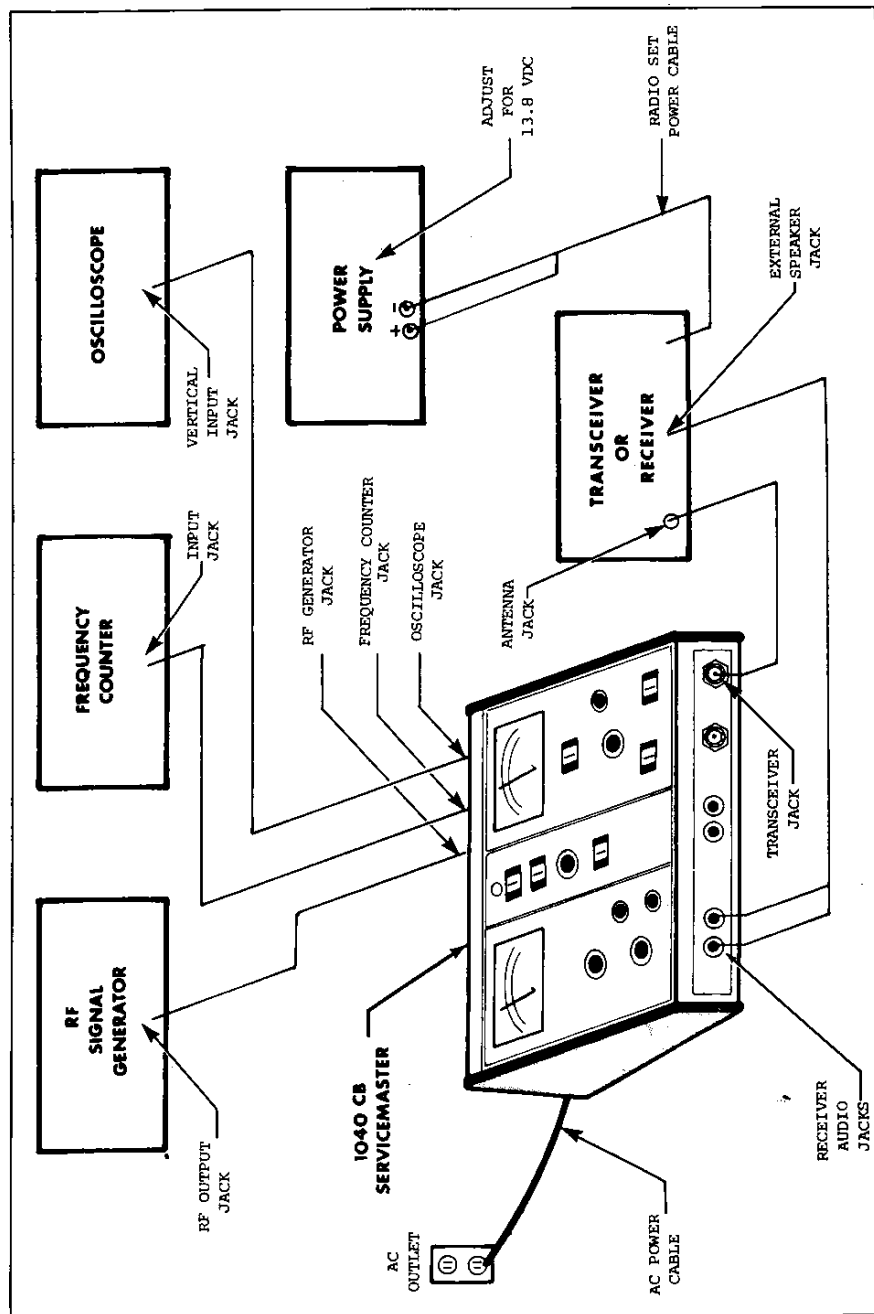

Fig. 5. Basic Set-Up
BASIC SET-UP (See Figure 5)
1. Hook up equipment in the basic test set-up shown in Fig. 5 and set all controls as instructed in INITIAL OPERATING PROCEDURE.
2. Set RANGE switch (15) to the 10W position for class D Citizen's Band transceivers or any other transmitters with a normal RF power of less than 10 watts. For transceivers and transmitters with normal RF power of 10 to 50 watts, select the 50W range. For transceivers and transmitters with normal RF power of 50 to 100 watts, select the 100W range.
3. Be sure the TRANSMITTER FUNCTION switch (16) is set to FWD (forward).
4. Be sure the RF LOAD switch (18) is set to INT (internal).
5. Be sure the RF POWER switch (19) is set to AVG (average).
1. Hook up equipment in the basic test set-up shown in Fig. 5 and set all controls as instructed under INITIAL OPERATING INSTRUCTIONS.
2. Set LOAD switch (3) to match the normal speaker load of the receiver under test: 4 ohms, 8 ohms or 16 ohms.
3. Be sure the RECEIVER FUNCTION switch (4) is in the 10 WATTS position.
4. Leave the AUDIO SOURCE switch (9) in the RECVR AUDIO position.
5. Start with the AUDIO GAIN control (10) in mid-position. Readjust as required to maintain a comfortable listening level throughout the remaining steps of this procedure.
6. Leave SPEAKER switch (11) set to ON.